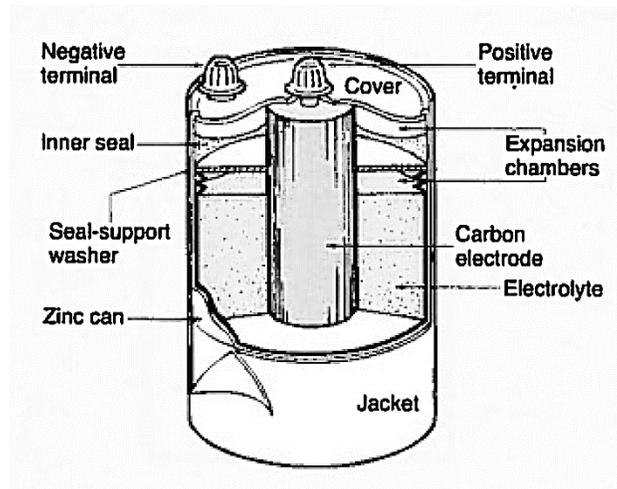

Figure 3.2: Dry Cell
- 3-17 In a dry cell, the negative "plate" is made in the shape of a container that holds the electrolyte. It is made of zinc. The positive plate is a carbon rod suspended in the center of the case, shown in Figure 3.2.